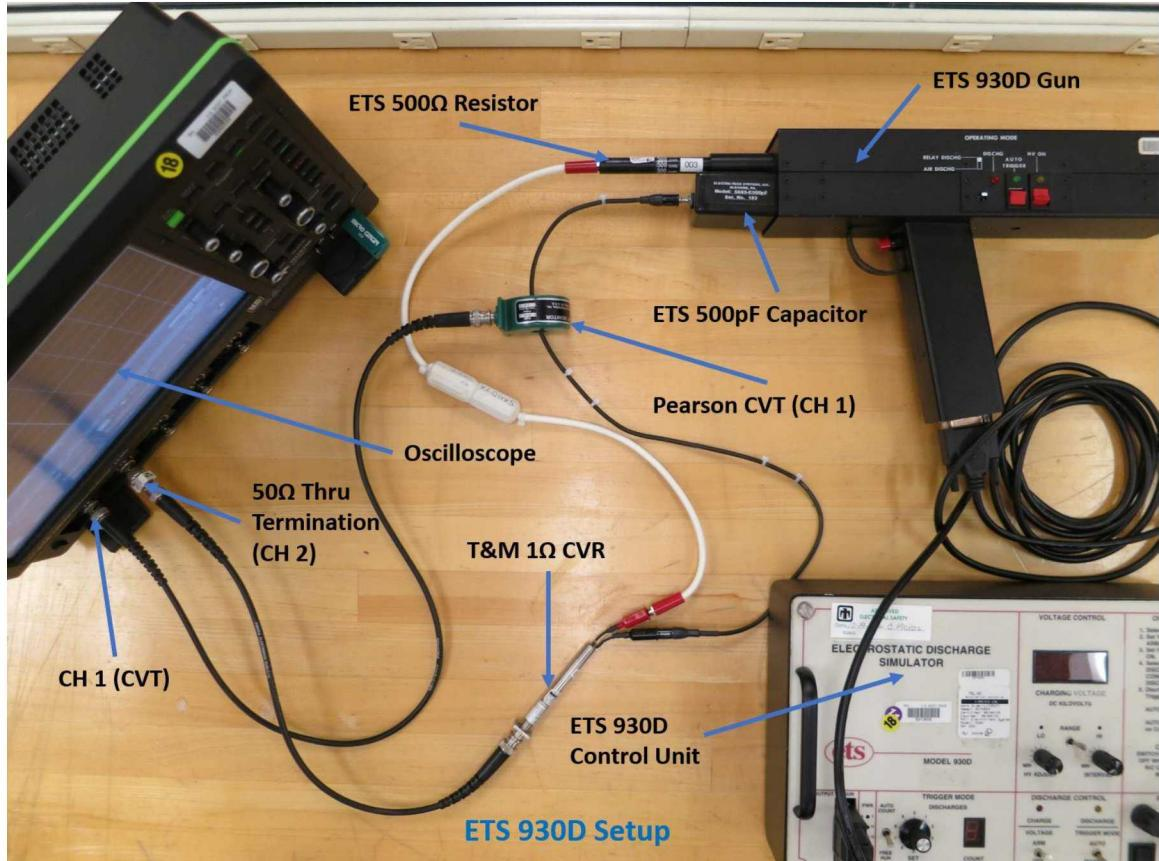
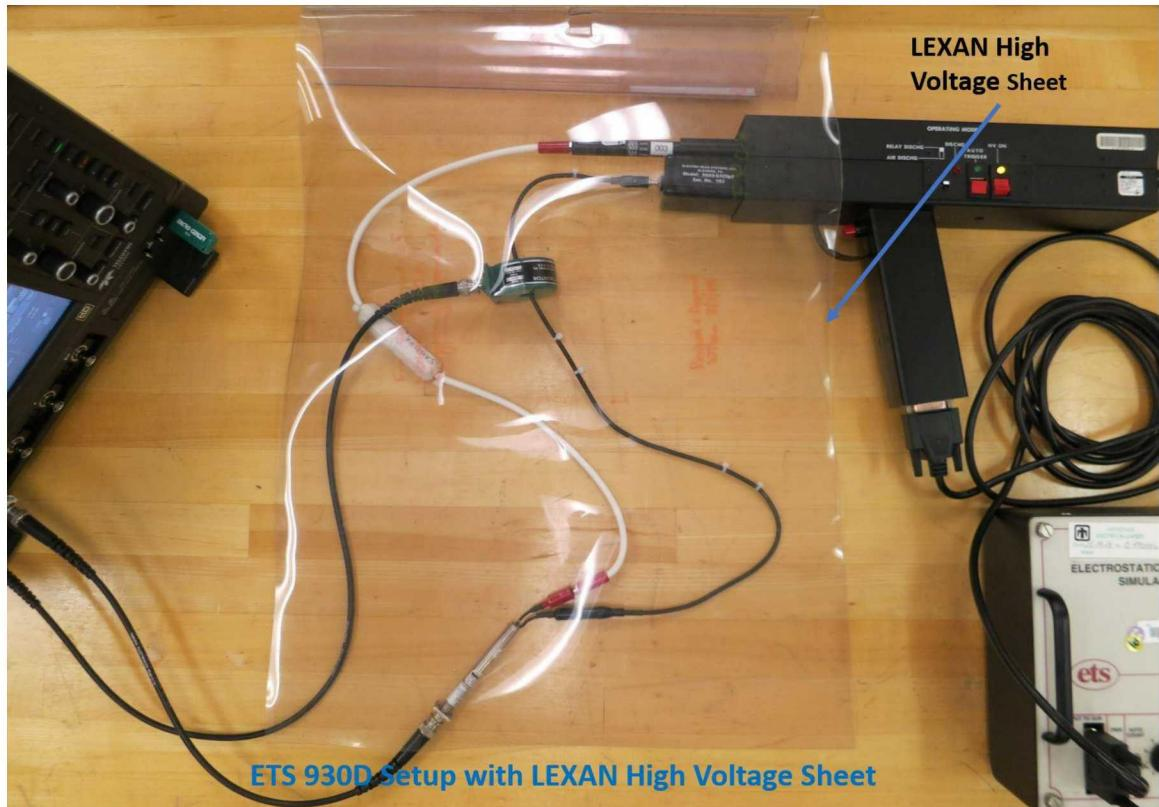

Figure 1. ETS 930D Connection Setup
Figure 2. ETS 930D Setup with LEXAN High Voltage Sheet”
- **Setup.** The AC power cord for the source should remain disconnected (physically) while setting up the load end of the test. After making all connections of the load (capacitor, resistor, CVR, and termination), ensure all exposed connections are covered with a high-voltage Lexan sheet. The Lexan high voltage sheet is used to prevent accidental exposure to exposed energized connections during discharge. See Figure 1 and Figure 2.
4. Using a BNC cable, connect the T&M SDN-100 CVR BNC output to the calibrated 50Ω termination at the LeCroy HDO 6104 Channel 2 input, as shown in Figure 1.
5. Using a BNC cable, connect the Pearson CVT BNC output to the LeCroy HDO 6104 Channel 1 input, as shown in Figure 1.
6. The AC power cord for the source should remain disconnected (physically) while setting up the load end of the test. After making all connections of the load (capacitor, resistor, CVT, CVR, and termination), ensure all exposed connections are covered with a high-voltage Lexan sheet. The Lexan high voltage sheet is used to prevent accidental exposure to exposed energized connections during discharge. See Figure 1 and Figure 2.